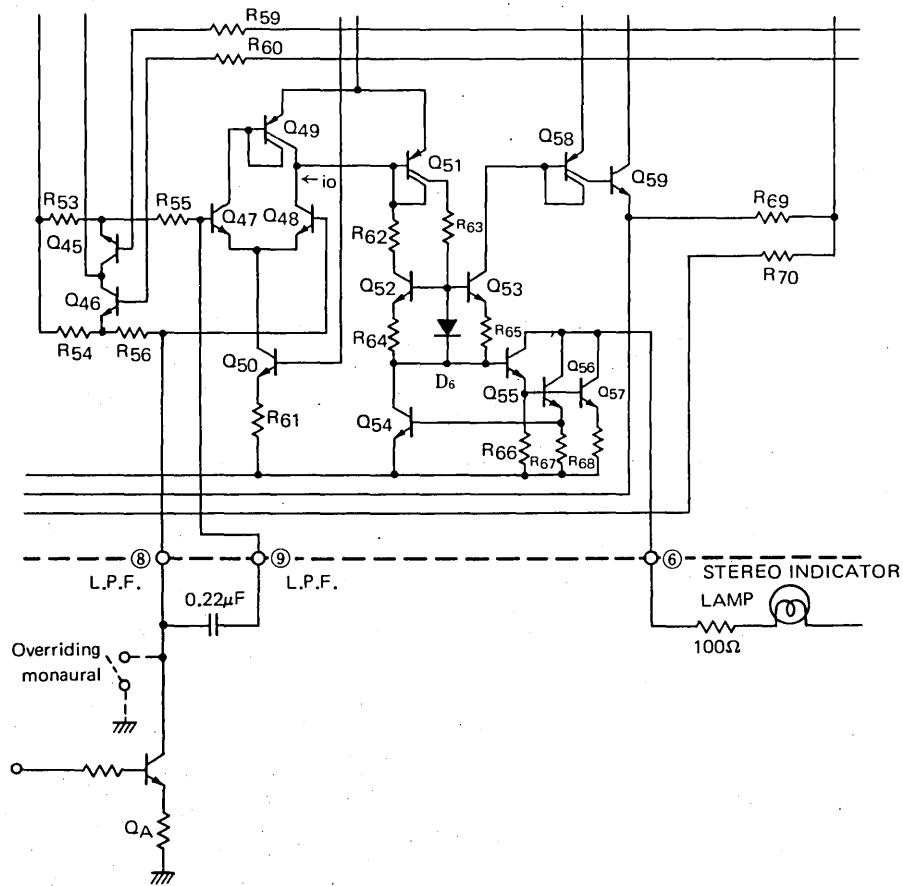

Fig. 11 Overriding Monaural Circuit.
A general circuit for this case is shown in Fig. 11. As described before, to obtain stereo-ON operation it is necessary to pass current through the base of transistor Q₅₁, but since Q₄₇, Q₄₈, Q₄₉, and Q₅₀ consist a differential amplifier circuit, stereo-ON operation can be obtained if the voltage of terminal (8) is kept higher than terminal (9). The overriding switching circuit will differ according whether a plus or ground potential is employed as the control voltage. But, for example, when manual switching of overriding monaural operation is required, this can be obtained by grounding terminal (9).